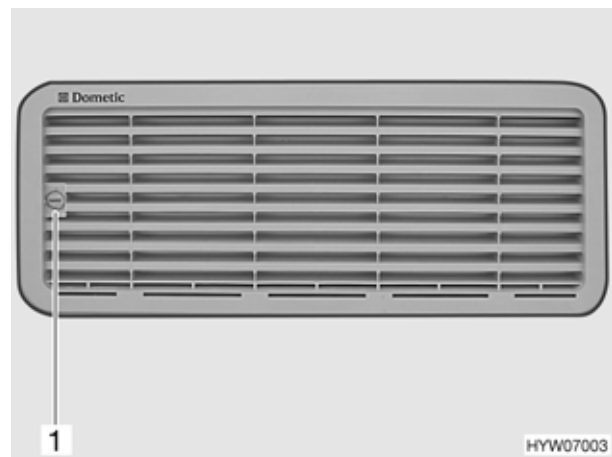

Fig. 128 Refrigerator ventilation grill (variant 1)
- Turn screw (Fig. 128,1) one quarter turn using a coin.